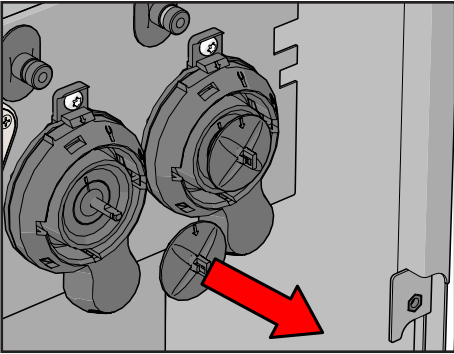

Figure 54. Remove mixer paddle
9. Remove the mixer paddle from the mixer axis (see Figure 54).